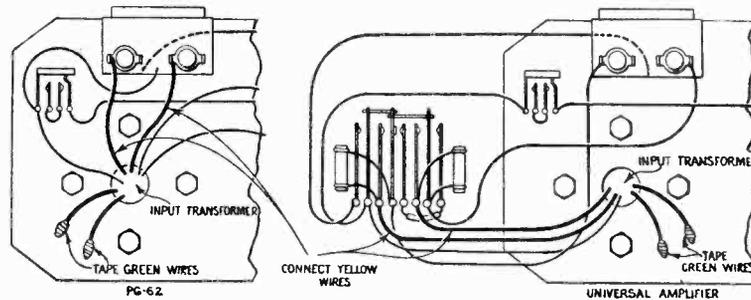

Figure 4—Wiring changes for two microphone operation
- Connect the two yellow transformer leads (500 ohms) to the microphone receptacle. See Figure 4.
- Connect the two yellow transformer leads (500 ohms) to the microphone selector switch at the points from which the two green leads were removed. See Figure 4.